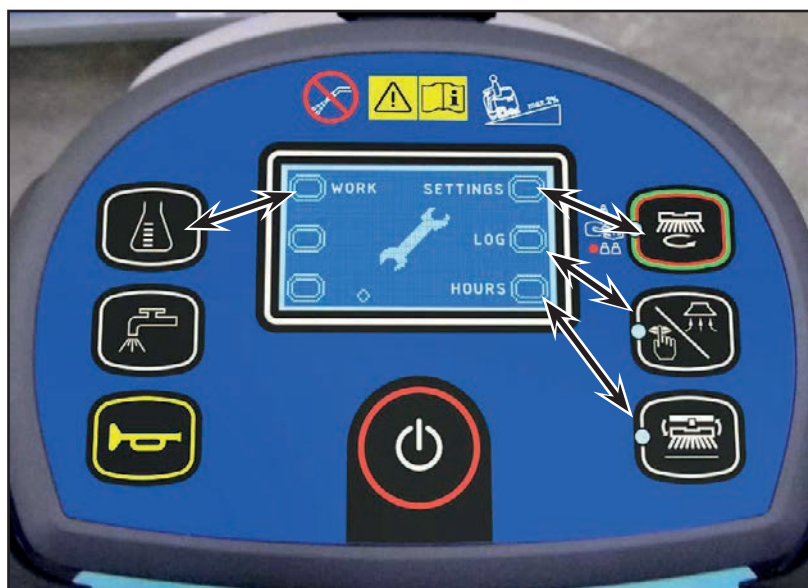

Figure 7
1. Insert the super user key (yellow) in place of the operator key (grey) (Figure 6) to access the main screen (Figure 7) of the multifunction display.
To return to the main screen (Figure 7), press the One-Touch button  repeatedly.
To return to the main screen (Figure 7), press the One-Touch button .